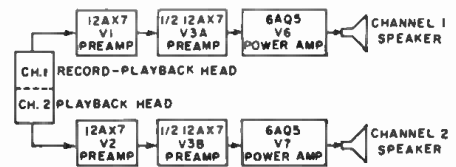

Fig. 9. Playback block in Webcor's 2008.
2. Before moving to the record system, try playing a tape known to be good. A typical, two-channel, stereo playback system is shown in Fig. 9. If playback is now defective, trouble must be in the head or associated circuit, rather than the amplifier portion. Cleaning, alignment, and possible replacement are to be considered.